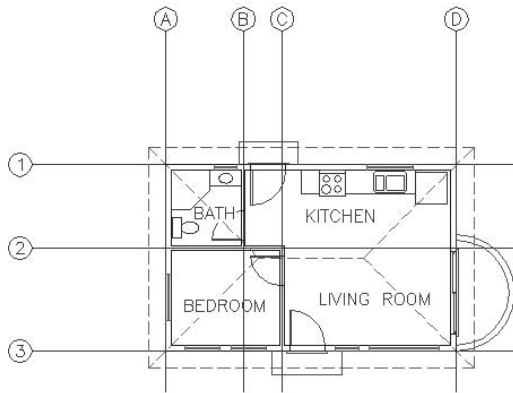

FIGURE 10.19: The completed grid
11. Repeat this process for the remaining four grid circle letters, changing them to *D*, *1*, *2*, and *3*. Press ↵ to end the Edit Text command. The letters and numbers are all in place, and the grid is complete (see Figure 10.19).